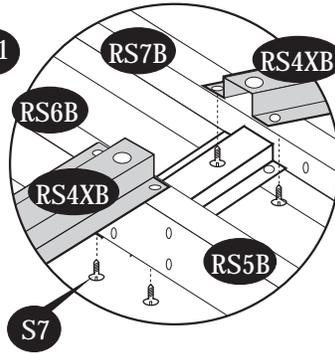
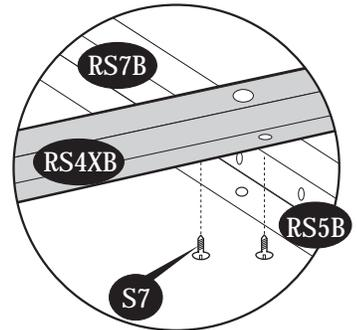

fig.3
fig.4
25. Attach the roof structures (RS4B) one end to roof structure (RS3SB) with (S1) screws. see fig. 1 & 2. Fix the other end to roof structure (RS6B) & (RS7B) with (S1) screws see fig. 3. Fix the middle portion to (RS6B) & (RS7B) roof structure with (S1) screws see fig. 4.